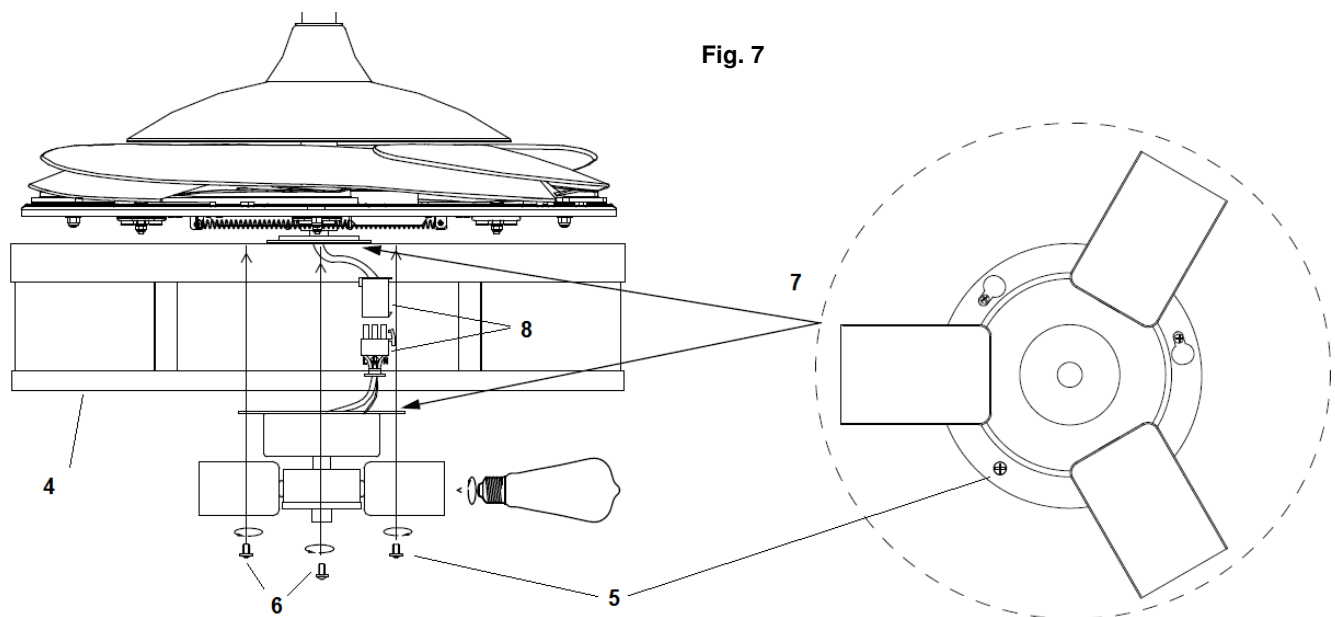

Fig. 7
4. Connect the plugs (8) together.
5. Loosen the screw (5) from the lamp shade (4). Align the two slot screws (6) with the keyhole slots of the light kit (7). Fig.7